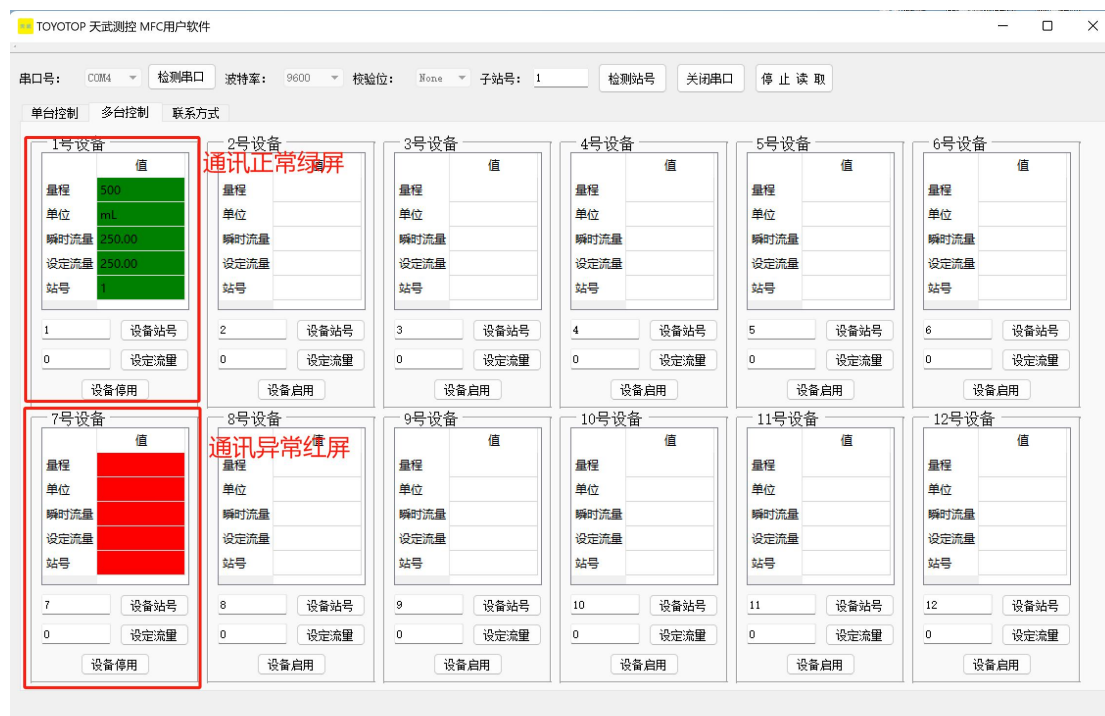

Figure 5 (green screen for normal communication; red screen for abnormal communication)
2. Connect the device: "Select station number" - "device enabled" (red represents abnormal communication; green represents normal communication, as shown in Figure 5. Abnormal communication requires checking whether the serial port and station number are correct, and whether the station number conflicts)